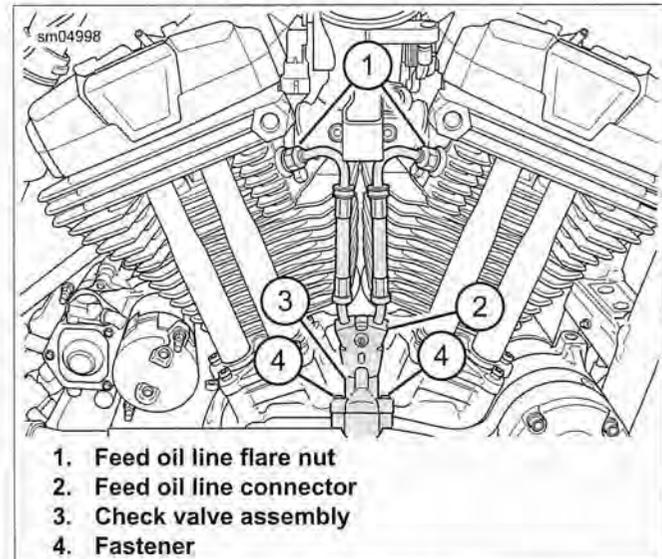
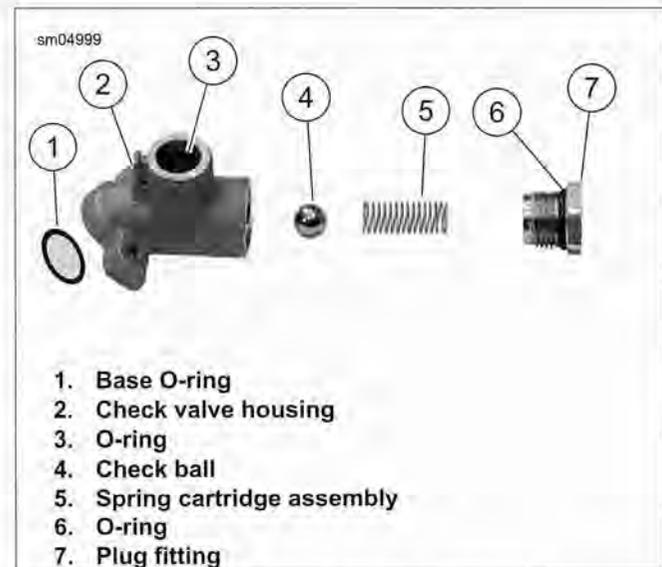

Figure 3-33. Cylinder Head Oil Feed Assembly
Figure 3-34. Check Valve Components
3. See Figure 3-33. Disconnect flare nuts (1) from each cylinder head.
4. Pull oil feed hose connector (2) straight up to remove feed hose assembly from check valve assembly (3).
5. Remove two fasteners (4) and remove check valve assembly (3).
6. See Figure 3-34. Carefully clamp assembly in vise and remove plug fitting (7).
7. Remove spring (5) and ball (4).
1. See Figure 3-34. Install ball (4) and spring (5) into housing (2).
6. See Figure 3-33. Push oil feed hose assembly straight down to install. Connect oil line flare nuts (1) to cylinder head flare fittings. Hold lines to prevent rotation and tighten to 13-17 ft-lbs (17.6-23.0 Nm).